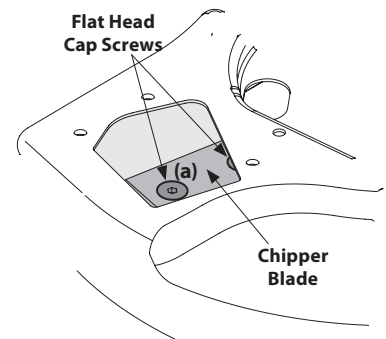

Figure 24
- Using a 3/16" allen wrench, remove the flat head cap screws (a) that hold the chipper blade to the impeller. These screws are accessible through the opening created when the chipper chute was removed earlier. See Figure 24.